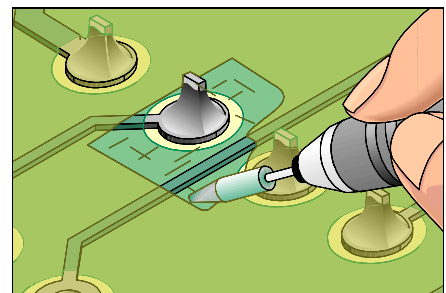

Figure 2: Rubberized abrasives are best used to remove thin, hard coatings.
2. Insert an abrasive tip into the hand held drill. Abrade away the damaged or unwanted coating. Move the tool from side to side to prevent damage to the PC board surface. (See Figure 2).